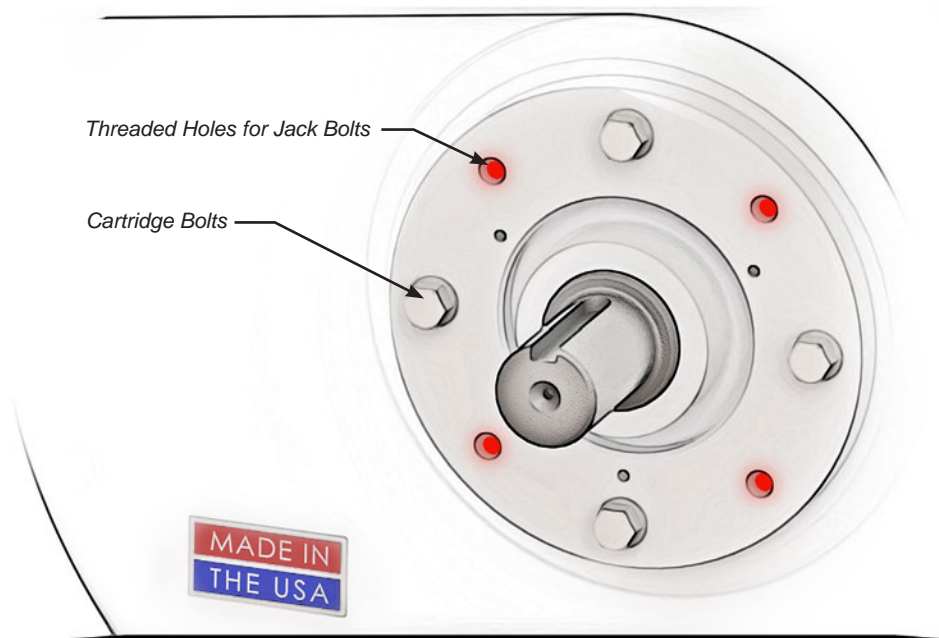

FIGURE 10
10. Remove cartridge bolts (Figure 10)
12. Alternately tighten opposing jack bolts (Figure 10) $\frac{1}{4}$ turn at a time until cartridge can be pulled from endplate. Properly dispose of cartridge.